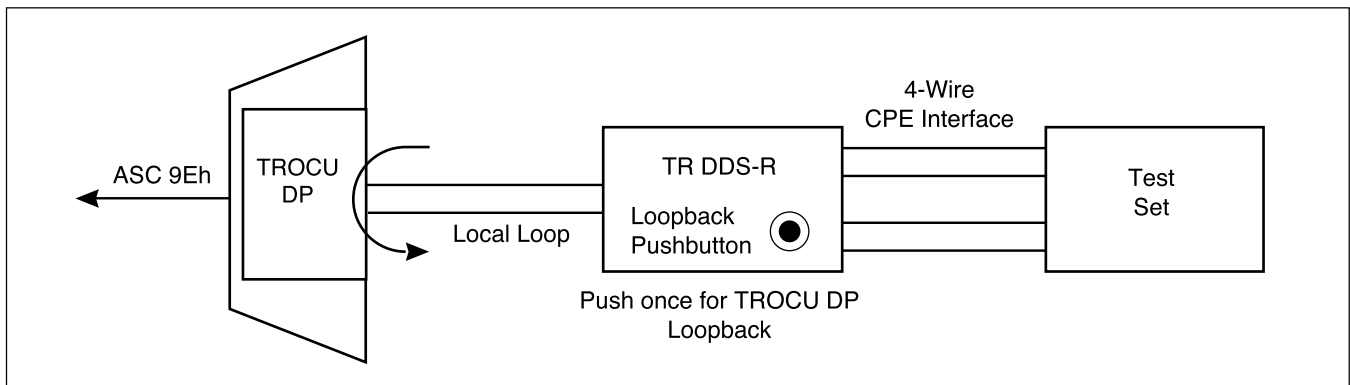

Figure 6. Total Reach DDS-R Remote End Initiated Loopback, Local Loop
- Pressing the TR DDS-R LBK pushbutton once will initiate a loopback at the TROCU DP towards the customer. See **Figure 6**. This allows data to be sent from the remote end to test the local loop and the TR DDS-R. This loopback is indicated by a flashing CUST LED on the TR DDS-R and a solid CUST LED on the TROCU DP.
If errors exist, the loopbacks can help determine the source, either the local loop or the TR DDS-R. During a remote end initiated loopback, the Total Reach system transmits ASC (9Eh) towards the network, indicating an out-of-service condition generated by the remote end as shown in Figures 6 and 7.